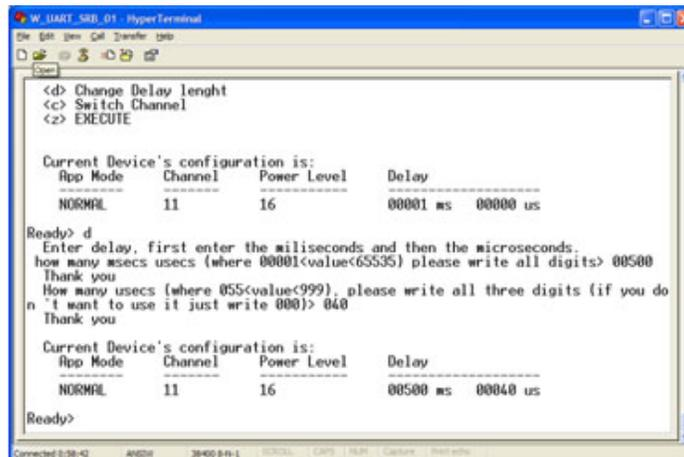

Figure 8-10. Change Delay Length
6. Type “d“ to change the “Delay Length“ value. See Figure 8-10.